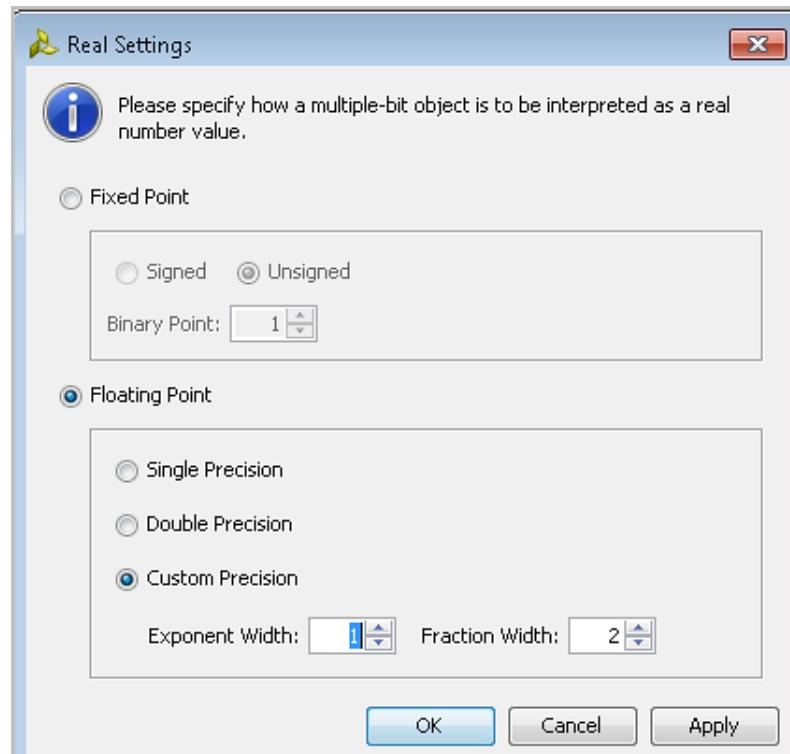

Figure 4-5: Real Settings Dialog Box
1. Open the Real Settings dialog box, shown in Figure 4-5, page 65.